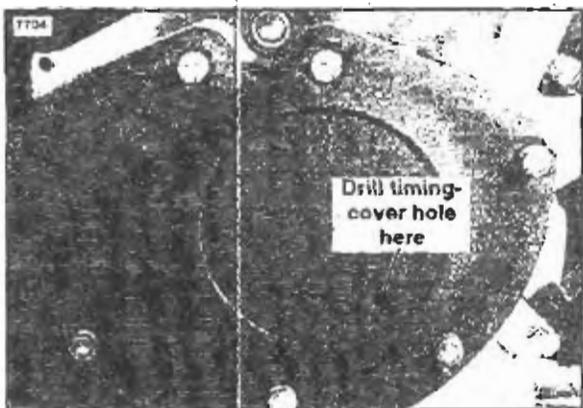

Figure 5. Drilling and Removing the Timing Cover
- 6. See Figure 5 Drill a hole in the outer timing cover at the 5 o'clock position and approximately 1/2 inch (13 mm) from the outside edge of the cover. Use a 90-degree pick or similar tool to pull the outer timing cover from the gearcase.